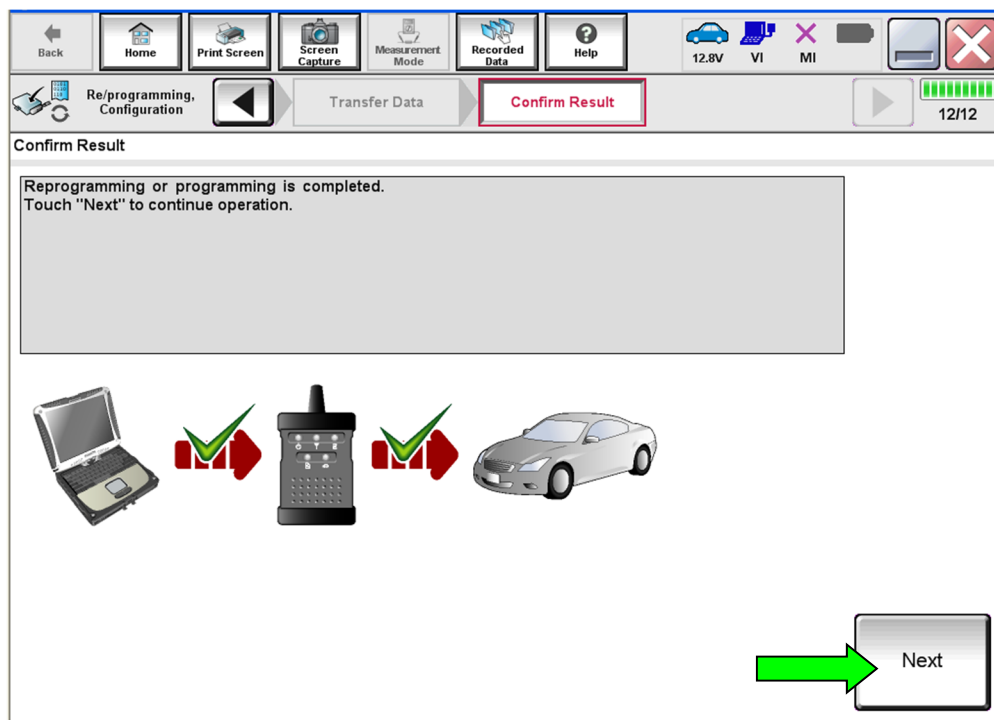

Figure 20
35. When the screen in Figure 20 displays, the reprogramming is complete.
- HINT:** If the screen in Figure 20 does not display (indicating that reprogramming did not complete), refer to **Laser/Radar Recovery** on the next page.